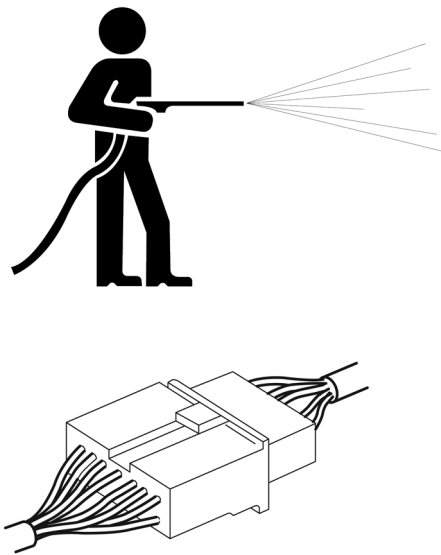

Figure 32
- Do not sprinkle water directly onto the electronic components (sensors, connectors) (1, Fig. 32).